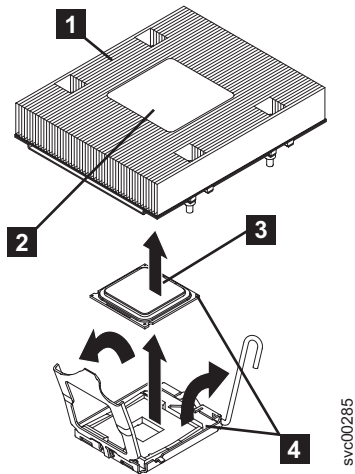

Figure 224. Removing the heat sink from the microprocessor
3. Remove the heat sink (**1** in Figure 224 on page 554). Loosen two captive screws on alternate sides of the heat sink fully before loosening the other two captive screws. (This helps to break the bond between the heat sink and the microprocessor.) After the captive screws are loosened, remove the heat sink.